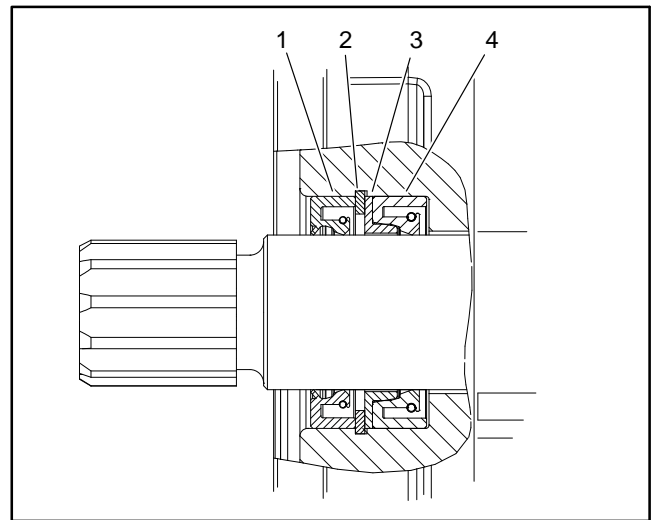

Figure 68
11. Carefully remove dust seal, retaining ring, backup washer and shaft seal from the front flange (Fig. 68). Discard removed seals.
2. Install new seals into front flange (Fig. 68):